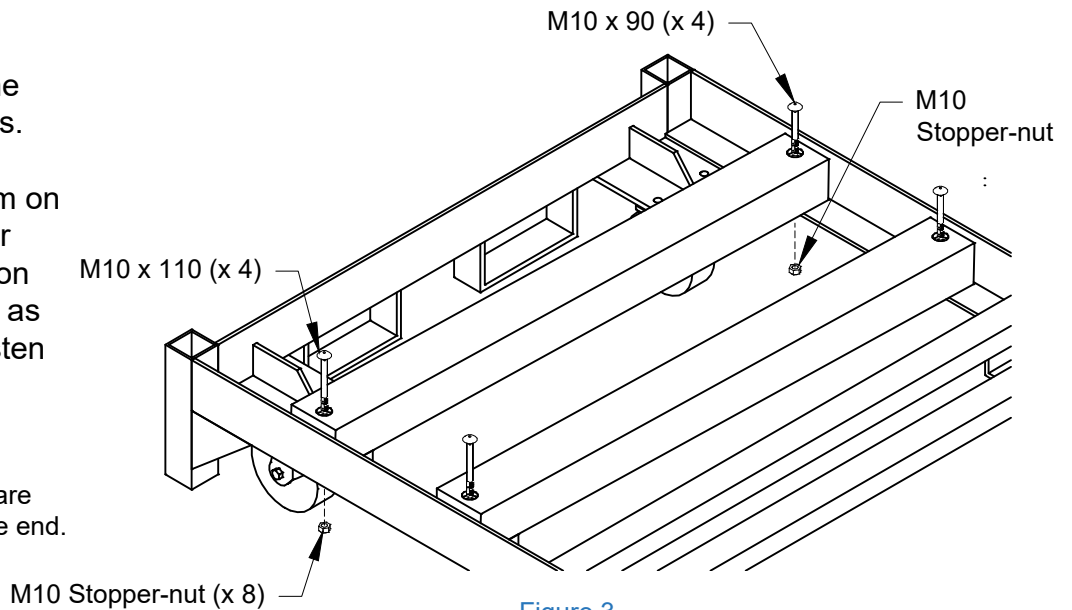

Figure 3
- 2.2 Place the plank over the hole and align the holes. Then fasten it together with bolt M10 x 110mm on the side which is higher and bolt M10 x 90mm on the side which is lower as shown in Figure 3. Fasten both bolts with stopper-nut.